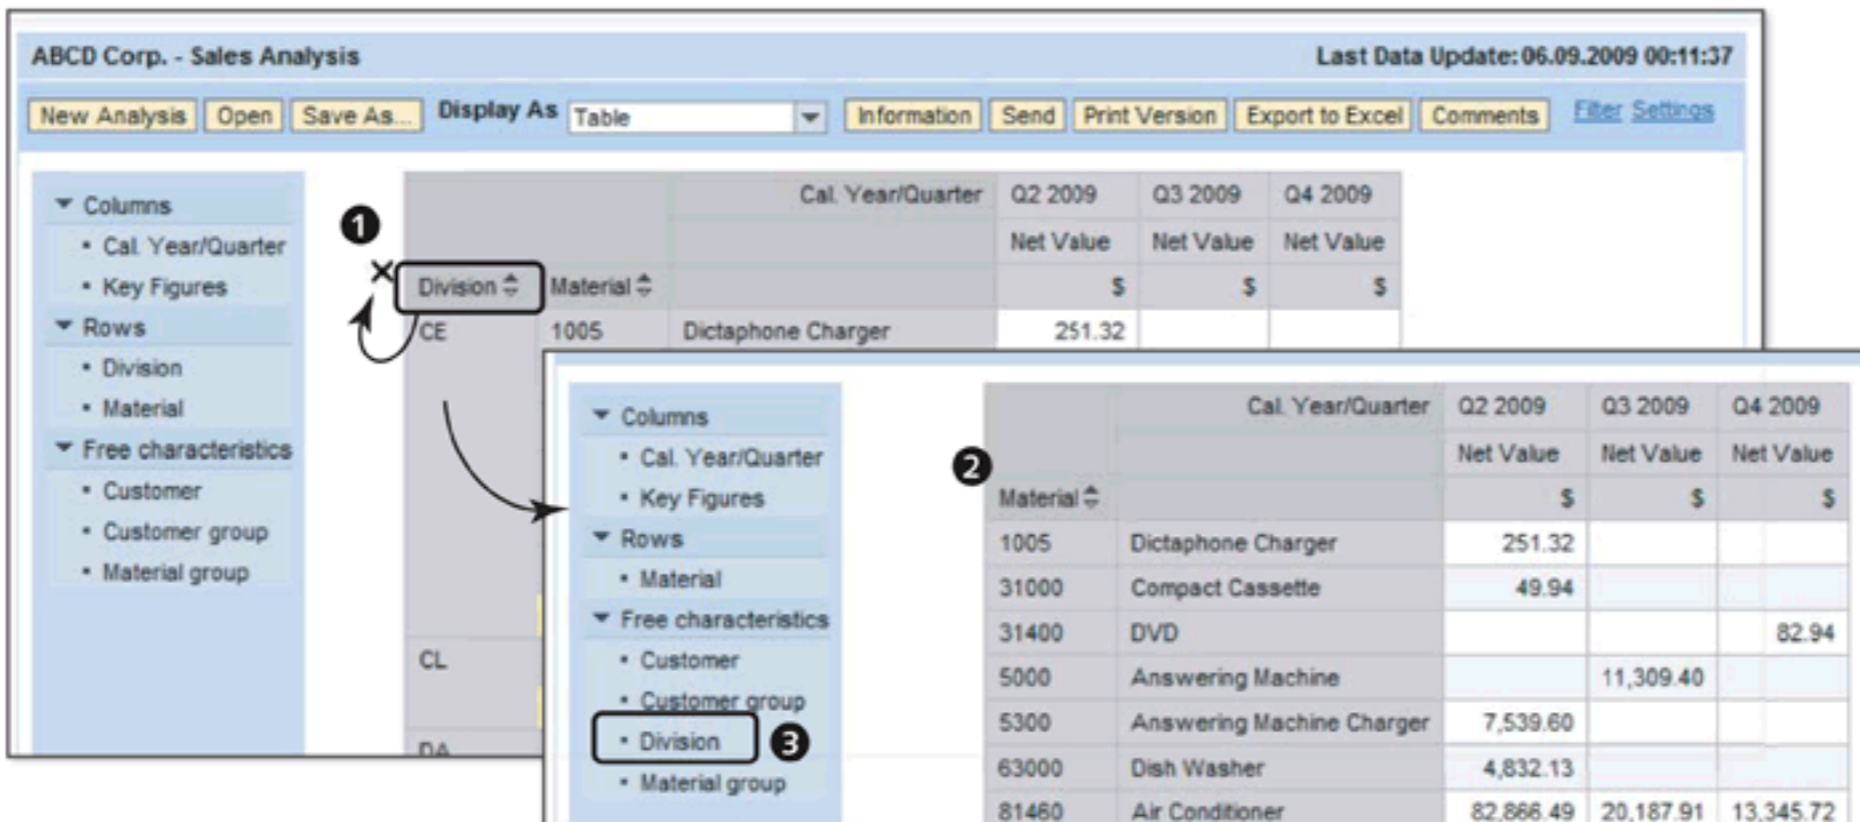

Figure 10.54 Navigation: Remove Drilldown
To remove a characteristic from the drilldown, you have to drag the characteristic header out of the layout area (1 of Figure 10.54). The analysis is refreshed without that characteristic (2), and the removed characteristic is added to the FREE CHARACTERISTICS area in the navigation pane (3).